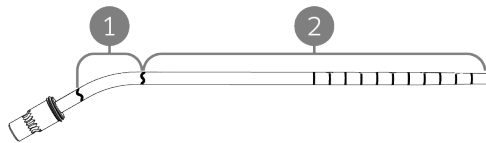

Figure 68 Malleable suction tube markings
2. If you are using a malleable suction tube, bend the suction tube to your desired angle. Malleable tubes are marked with a "malleable" pictogram below the handle attachment (📐). They may be bent anywhere between the pictogram and the thick straight line near that tip (the bendable area is indicated by item 1 in Figure 68).
Do not bend in the area indicated by item 2 in Figure 68.